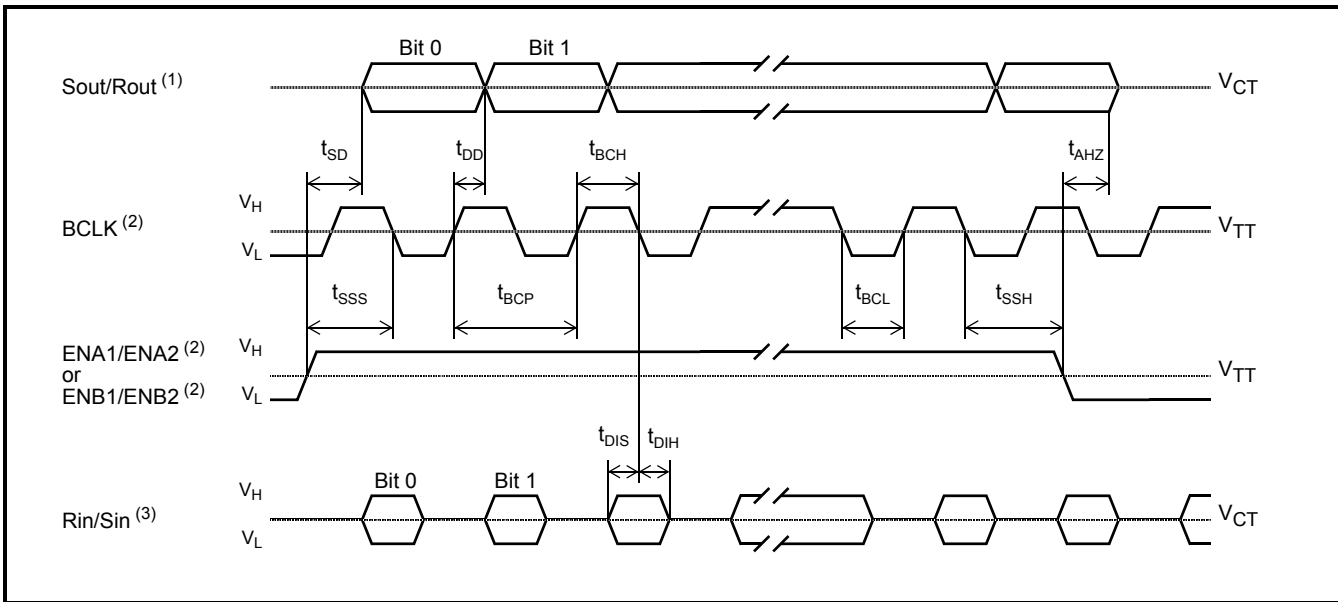

Figure 17 - SSI Data Port Timing
**AC Electrical Characteristics† - Serial Data Interfaces (see Figures 17 and 18)**Voltages are with respect to ground ( $V_{SS}$ ) unless otherwise stated.
AC Electrical Characteristics† - Microport Timing (see Figure 17)